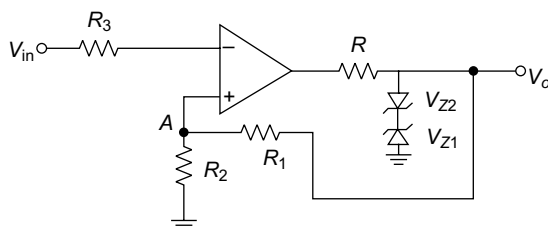

Fig. 5.98
36. In a Schmitt trigger circuit as shown in Fig. 5.98, $R_1 = 10 \text{ k}\Omega$, $R_2 = 5 \text{ k}\Omega$, $V_{in} = 5 \sin \omega t$, and saturation voltage $\pm 15 \text{ V}$. Assume $V_{Z1} = V_{Z2} = 10 \text{ V}$, $V_D = 0.6 \text{ V}$